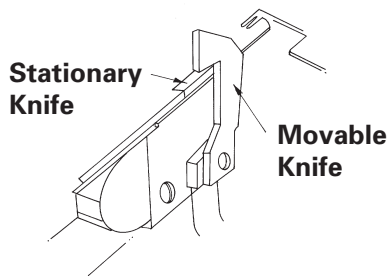

Fig. 16-5
- 7. **Knives.** The blades that trim fabric as it is serged. Most models have knives that are retractable for serging over a folded edge without risk of cutting the fabric. (Figs. 16-5 and 16-6)